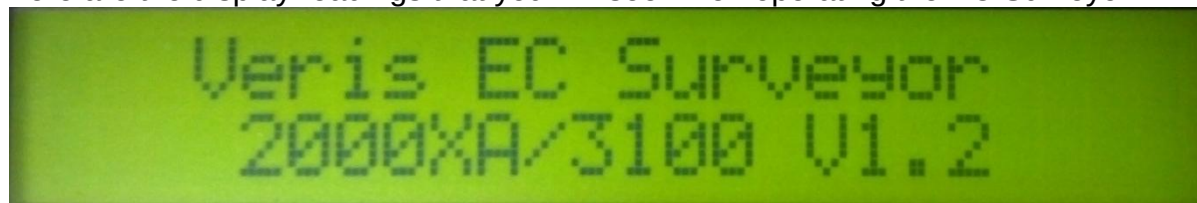

Figure 2
- 2) Install tongue as shown in Figure 2.